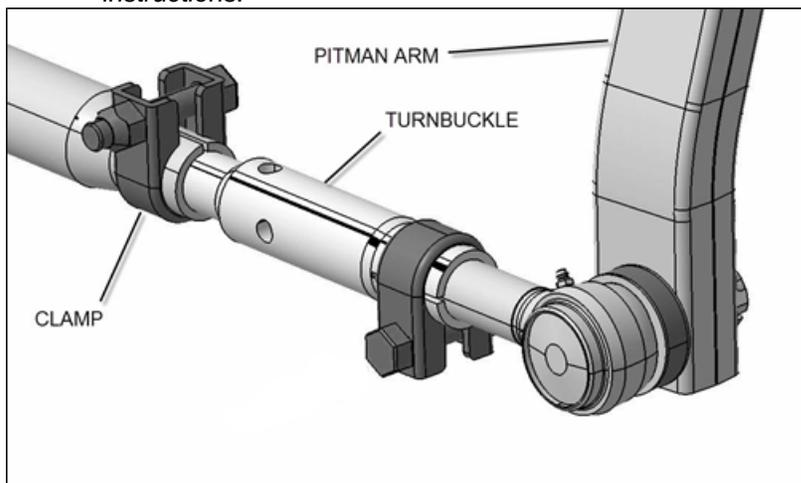

Figure 1: Recalled draglink with turnbuckle and two clamps.
1. This recall involves a former draglink design with a turnbuckle near the pitman arm.(Figure 1)
3. The recalled draglink is identifiable by the presence of a *turnbuckle* and *two clamps* in the section nearest to the pitman arm. (Figure 1)
4. If it is confirmed your vehicle has the recalled draglink (Figure 1), you may proceed to the replacement.